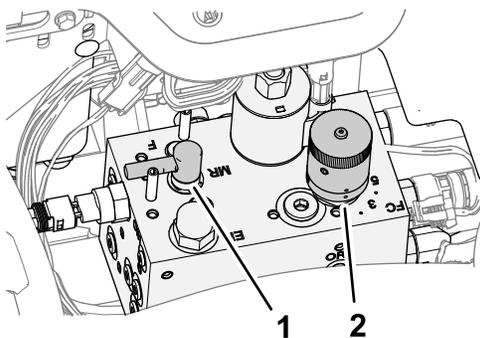

Figure 91
3. Move the backlap lever to the F (mow) position (Figure 91).